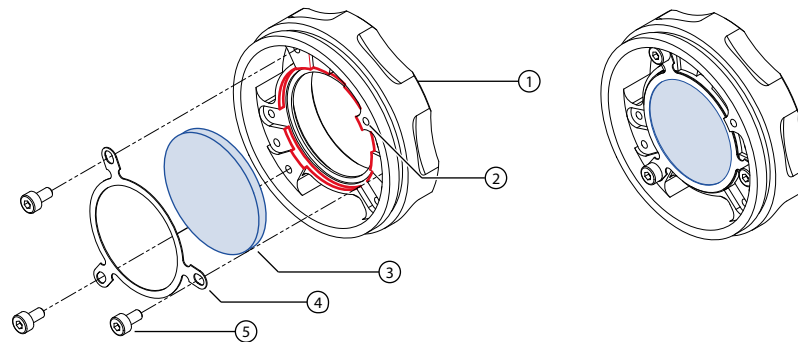

Figure 72: Changing the filter in the C-Mount adapter
To change the filter of the C-Mount lens adapter, follow the instructions outlined in Figure 72.
- See Figure 72 on page 256 (blue = filter, red = filter recess).